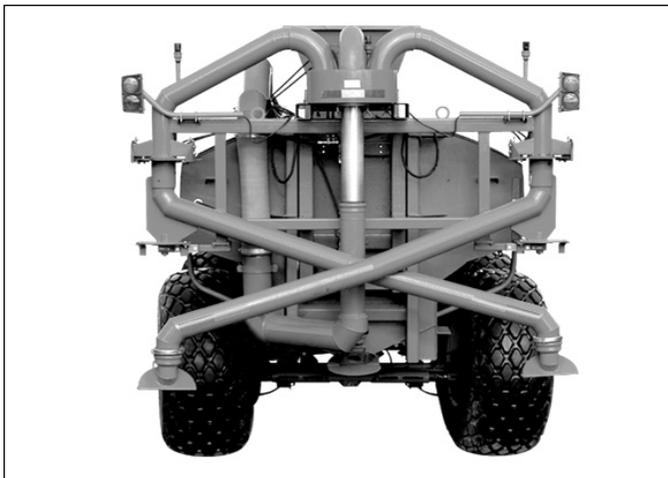

Fig. 27
- 5.2. Assemble the rear signal lights (optional) on the tool bar framework - *fig. 27*.